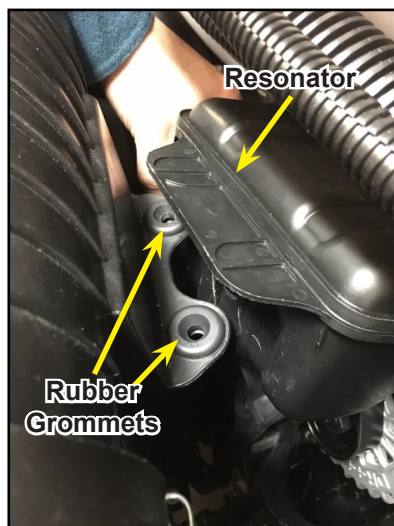

Figure 40. Pull the Silencer UP Vertically to Dismount
2. Dismount the resonator from the air intake unit by pulling the resonator up. The resonator is attached to the air intake unit with 2 rubber grommets (Figure 40).